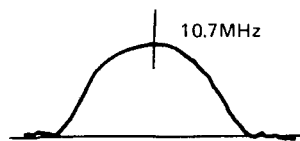

Fig. 22
- Adjust the wave center to 10.7MHz with T801 (Fig. 22).